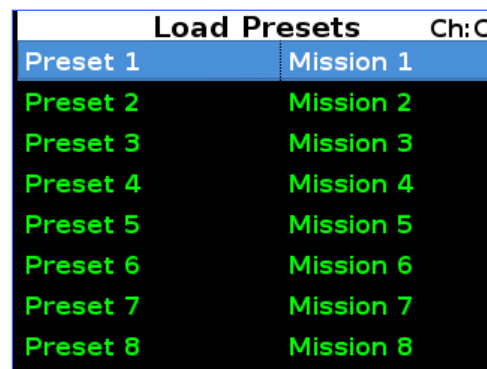

Figure 77: Load Menu, Load Presets
The Load Presets screen, shown in Figure 77, displays eight (8) slots which contain saved preset configurations. The menu displays the file name for the preset next to the load slot. These names can be modified via the Browser Interface. The file name may be truncated on the front panel display since the Browser Interface allows up to 20 characters. Use the Up and Down arrow keys to select a load slot with desired file name displayed. Pressing the Enter key loads the stored preset and configures the receiver accordingly.